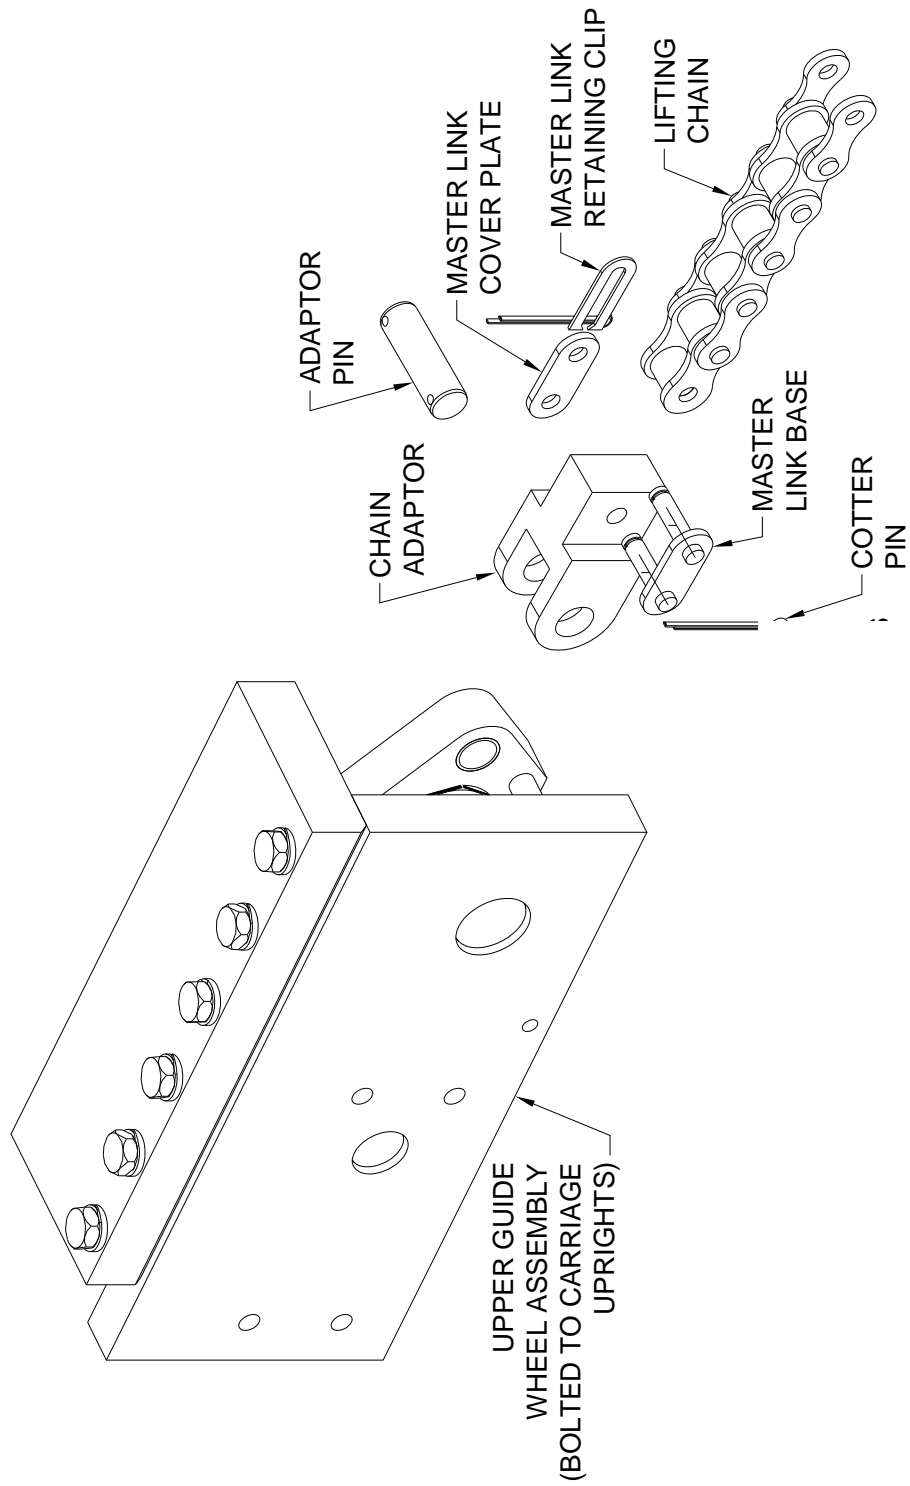

Figure 27a Locking Cam Attachment
4. Make sure that the carriage is level at the lower level before connecting one end of the lifting chain to the wheel guide with the hardware listed & provided as shown in **Figure 27a and b**.